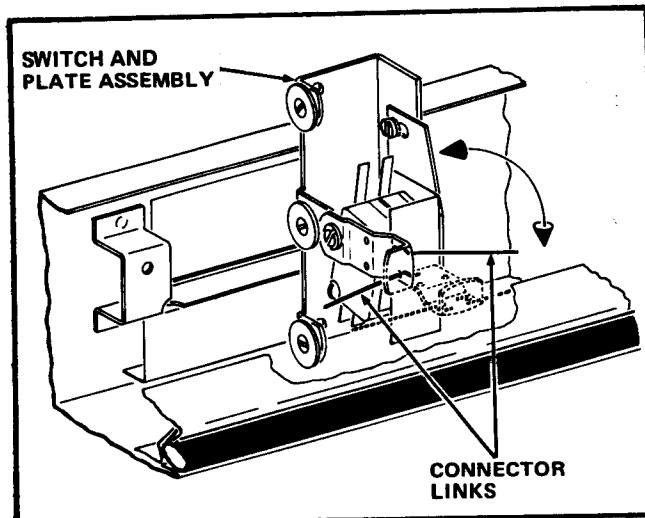

FIGURE 29
2. Install the Switch and Plate Assembly in the Channel by rotating it 90° to the Channel. Place the ends of the two Connector Links in the two holes in the Latch Bracket. See Figure 29.
1. The Link from the upper end Push Button Assembly fits into the lower hole in the Latch and the Link from the lower end Push Button Assembly fits into the upper hole in the Latch, next to the other link. See Figure 29.